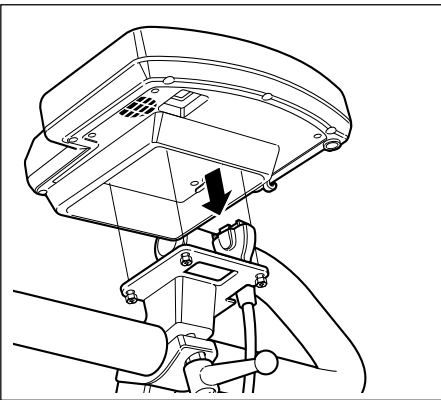

Fig. 1
1. Turn off the power, and loosen the four screws on the handlebar stem to remove the control unit. (Fig. 1)
2. Remove the cable connector which is connected to the back of the control unit. (Fig. 1)